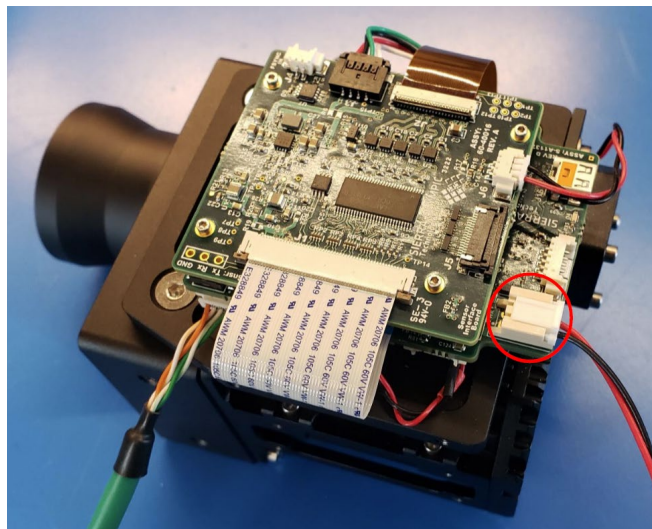

Figure 2: Power Connection
- 6.2.1 Connect the provided Sherlock-terminated power cable to J1 as shown in Figure 2. The nominal input voltage is 12VDC (max 14V) with a minimum 1.5A supply.